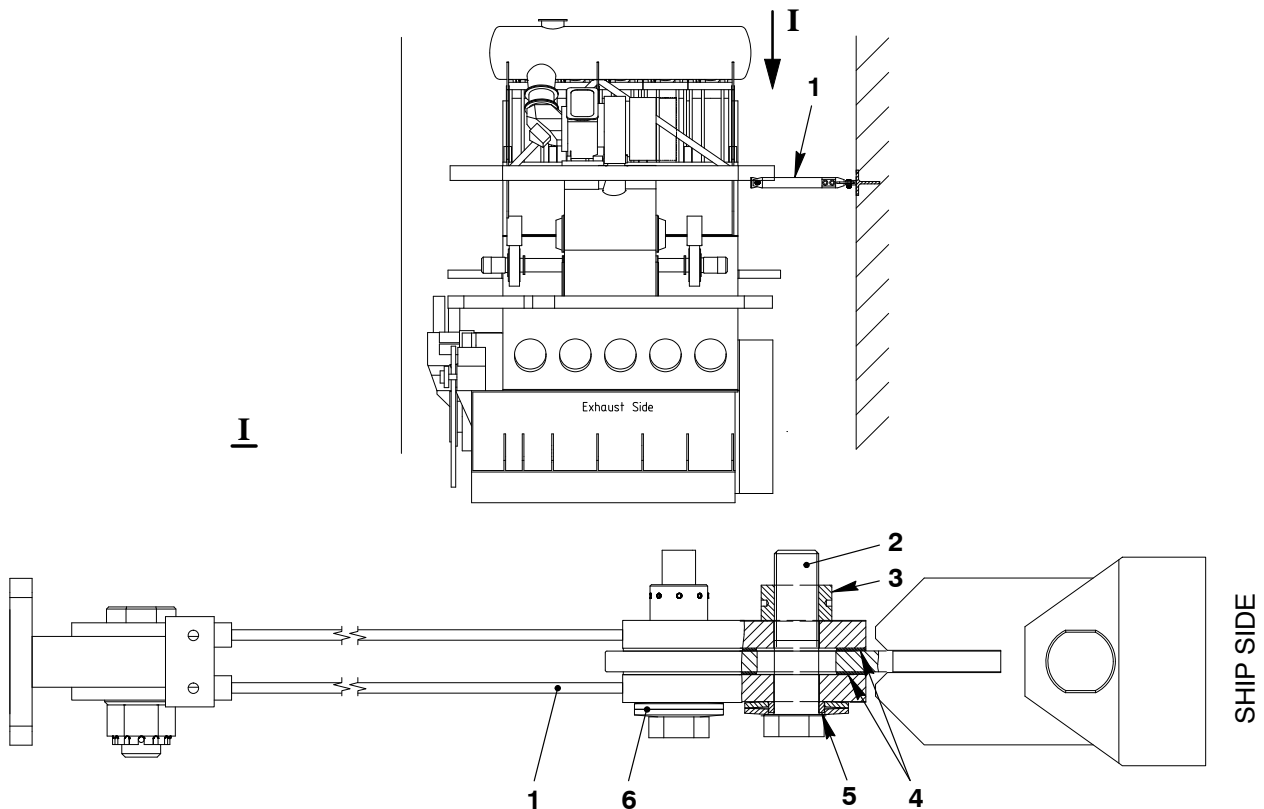
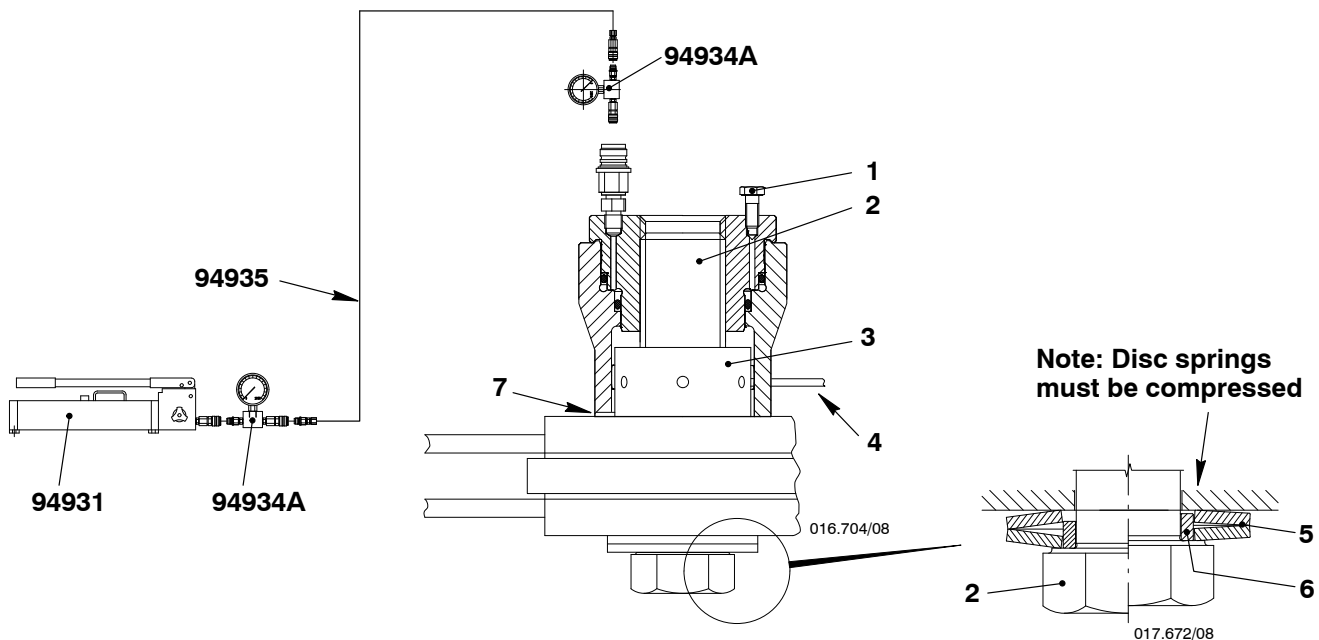

Fig. 1
Fig. 2
The engine stays (1, Fig. 1) are related to the design of the ship. The engine stays are installed as follows:
- 1) Clean the threads of the bolts (2, Fig.1) and the seating surfaces.
- 2) Apply Molykote paste G to the threads of the bolts (2).
- 3) Refer to 9403 2 and 9403 4. Attach the pre-tensioner and the applicable equipment as shown in Fig. 2.
- 4) Apply a tension of 170 bar to the bolt (2).
- 5) Put the feeler gauge (94122) through the slot (7) to do a check for clearance between the nut and its seating. If there is no clearance, the bolt tension has not changed and you can do step a) and step b). If there is a clearance, do step 6).
- a) Operate the vent screw (1) to release the pressure to zero.
- a) Use a round bar (4) to tighten the nut (3).
- c) Operate the vent screw (1) to release the pressure to zero.